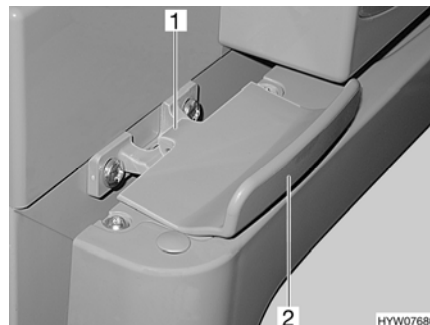

Fig. 187 Lock of refrigerator door, closed (Thetford)
- Open the refrigerator door at the handle (Fig. 187,2). The lock (Fig. 187,1) is released automatically.